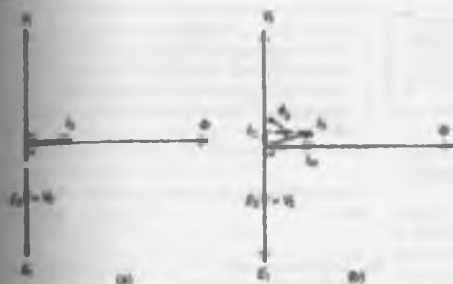

Figure 21.2
The core flux is common to both primary and secondary windings in a transformer and is thus taken as the reference phasor in a phasor diagram. On no-load the primary winding takes a small no-load current I_0 and since, with losses neglected, the primary winding is a pure inductor, this current lags the applied voltage V_1 by 90° . In the phasor diagram assuming no losses, shown in Fig. 21.2(a), current I_0 produces the flux and is drawn in phase with the flux. The primary induced e.m.f. E_1 is in phase opposition to V_1 (by Lenz's law) and is shown 180° out of phase with V_1 and equal in magnitude. The secondary induced e.m.f. is shown for a 2:1 turns ratio transformer.
A no-load phasor diagram for a practical transformer is shown in Fig. 21.2(b). If current flows then losses will occur. When losses are considered then the no-load current I_0 is the phasor sum of two components – (i) I_M , the magnetising component, in phase with the flux, and (ii) I_C , the core loss component (supplying the hysteresis and eddy current losses). From Fig. 21.2(b):
- (c) From the right-angled triangle in Fig. 21.2(b) and using Pythagoras' theorem, $I_0^2 = I_w^2 + I_m^2$ from which, magnetising current,